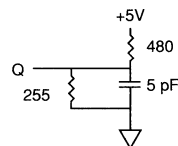

Fig. 2 OUTPUT LOAD EQUIVALENT
- ^tHZCE, ^tHZOE and ^tHZWE are specified with CL = 5pF as in Fig. 2. Transition is measured ± 500mV from steady state voltage.